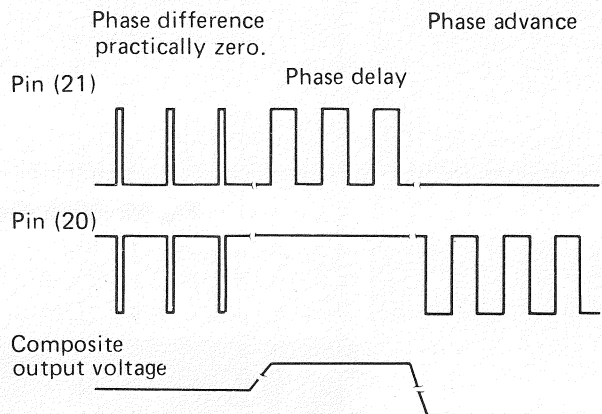
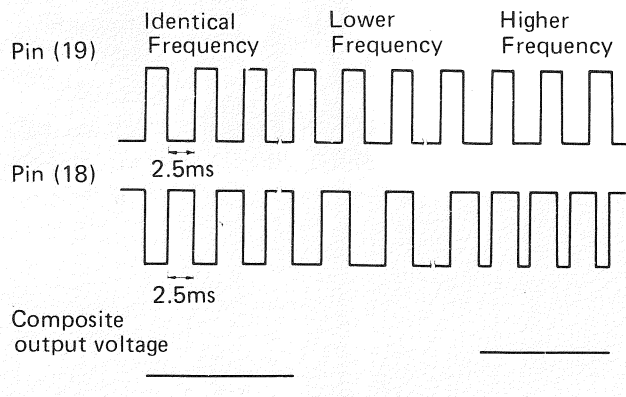

Fig. 16 Output of phase comparator
Fig. 17 Output of frequency comparator
- f) This frequency-multiplied signal is supplied to both the frequency and phase comparators, and compared with the reference signal. When the quadrupled frequency of the speed detecting signal is lower than the frequency of the reference signal (i.e. the rotation speed is lower than the rated speed), the composite output voltage of the frequency comparator goes down. When the quadrupled frequency of the speed detecting signal is higher than the rated speed, the composite output voltage goes up. (See Fig. 17) On the other hand, if a phase lag arises (i.e. a rotational lag), the composite output voltage of the phase comparator goes up. Conversely, if a rotational advance arises, the composite output voltage goes down. (See Fig. 16) The composite output voltages mentioned above refer to those that have passed through the low-pass filters.
- g) If the frequency comparator output (voltage across terminals 18 and 19 of IC PD1001) is lower than that of the reference signal (i.e. when there is a lag in the rotation of the rotor), the synthesizer output is set at HIGH (see Fig. 17). The waveform of the composite voltages in Figs. 16 and 17 indicate the CR lowpass filter output.